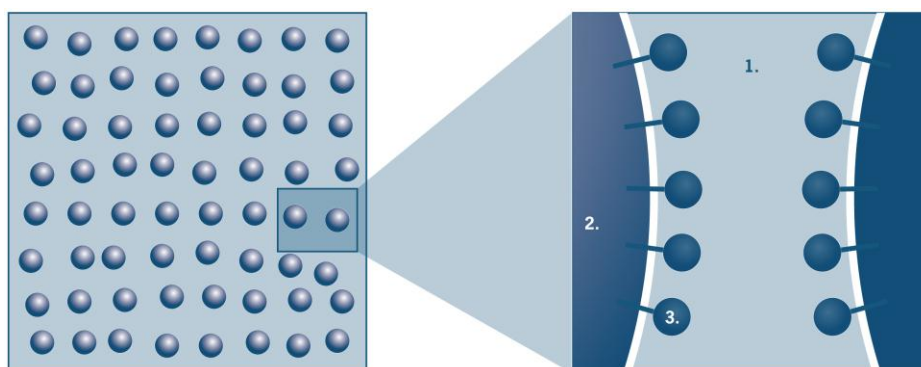

Figure 33 Mayonnaise with the emulsifier (3) on the interface between oil droplet (2) and water (1).
A molecule like phosphatidylcholine interacts both with water and oil and in so doing positions itself on the interface of water and oil, see Figure 33. The emulsifier (3) sits with its apolar tail in the fat (2) and with the polar head (the green ball) in the water (1). The function of the emulsifier can be compared with the function of the stearate molecule in soap. This is described in Chapter 2: The Basis.